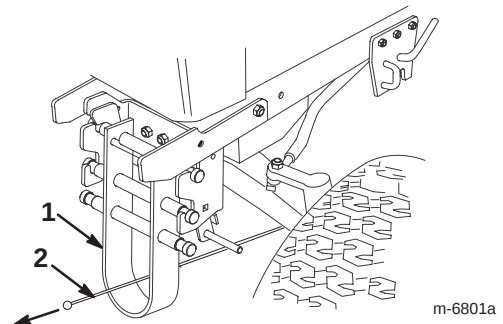

Figure 15
10. Thread the cable through the anti-sway bar (Fig. 15).